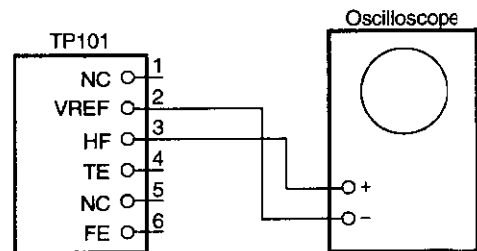

Fig2
7. Press TRACK button (" 0 3 " is displayed), also, press PLAY/PAUSE button. HF signal can be observed with the connection below. (Fig2)